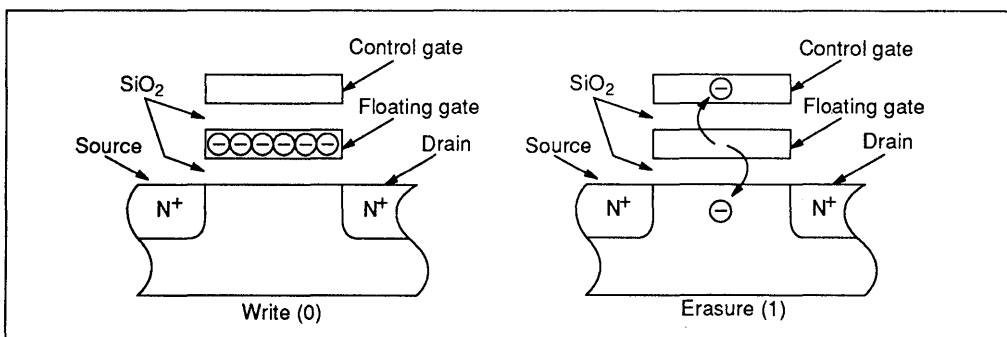

Figure 44 Cross-Sections through EPROM Cell
**Principles of Programming/Erase:** A memory cell in a ZTAT™ microcomputer is the same as an EPROM cell: it is programmed by applying a high voltage between its control gate and drain to inject hot electrons into its floating gate. These electrons are stable, surrounded by an energy barrier formed by an SiO2 film. The change in threshold voltage of a memory cell with a charged floating gate makes the corresponding bit appear as 0; a cell whose floating gate is not charged appears as a 1 bit (figure 44).